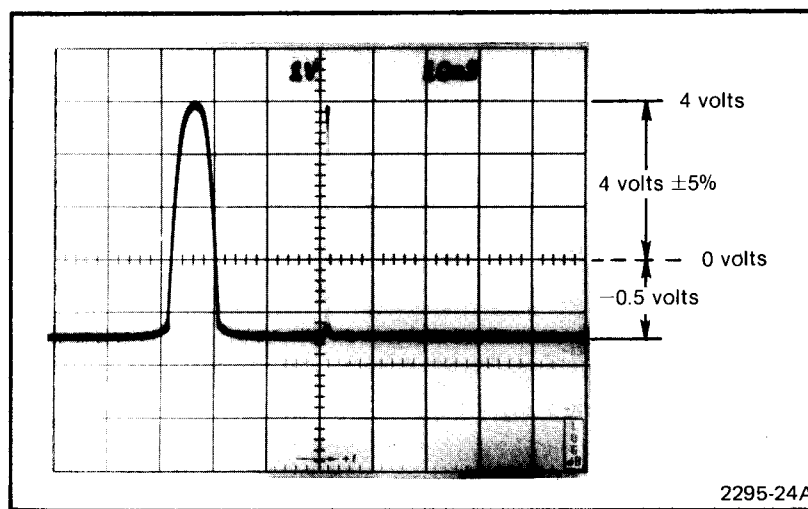

Fig. 4-16. Video Output Test Waveshape.
c. Check the amplitude of the video output signal using the test oscilloscope. Note the dc zero volt level. Video amplitude should equal 4.0 volts ± 0.2 volt as measured from the zero voltage reference level. See Fig. 4-16.